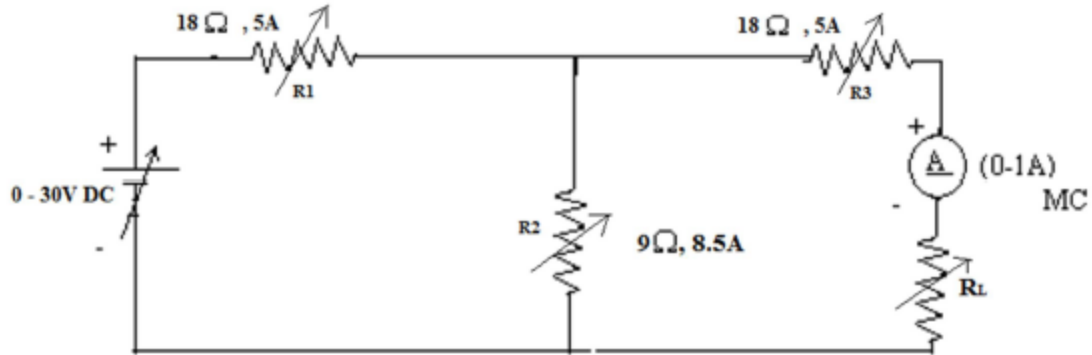

Fig 1
1. Connection are made as per the circuit diagram shown in figure 1.